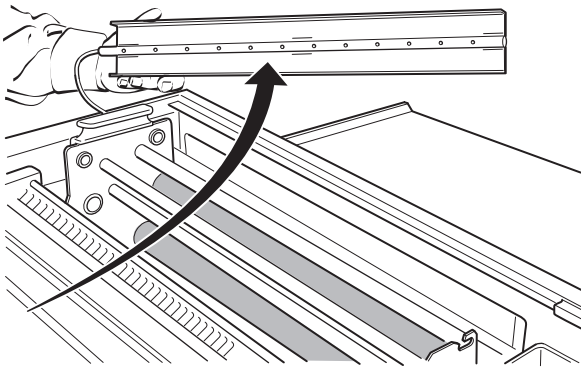

Figure 14
- Remove the sprayer cover from the intermediate wash rack (fig. 14).